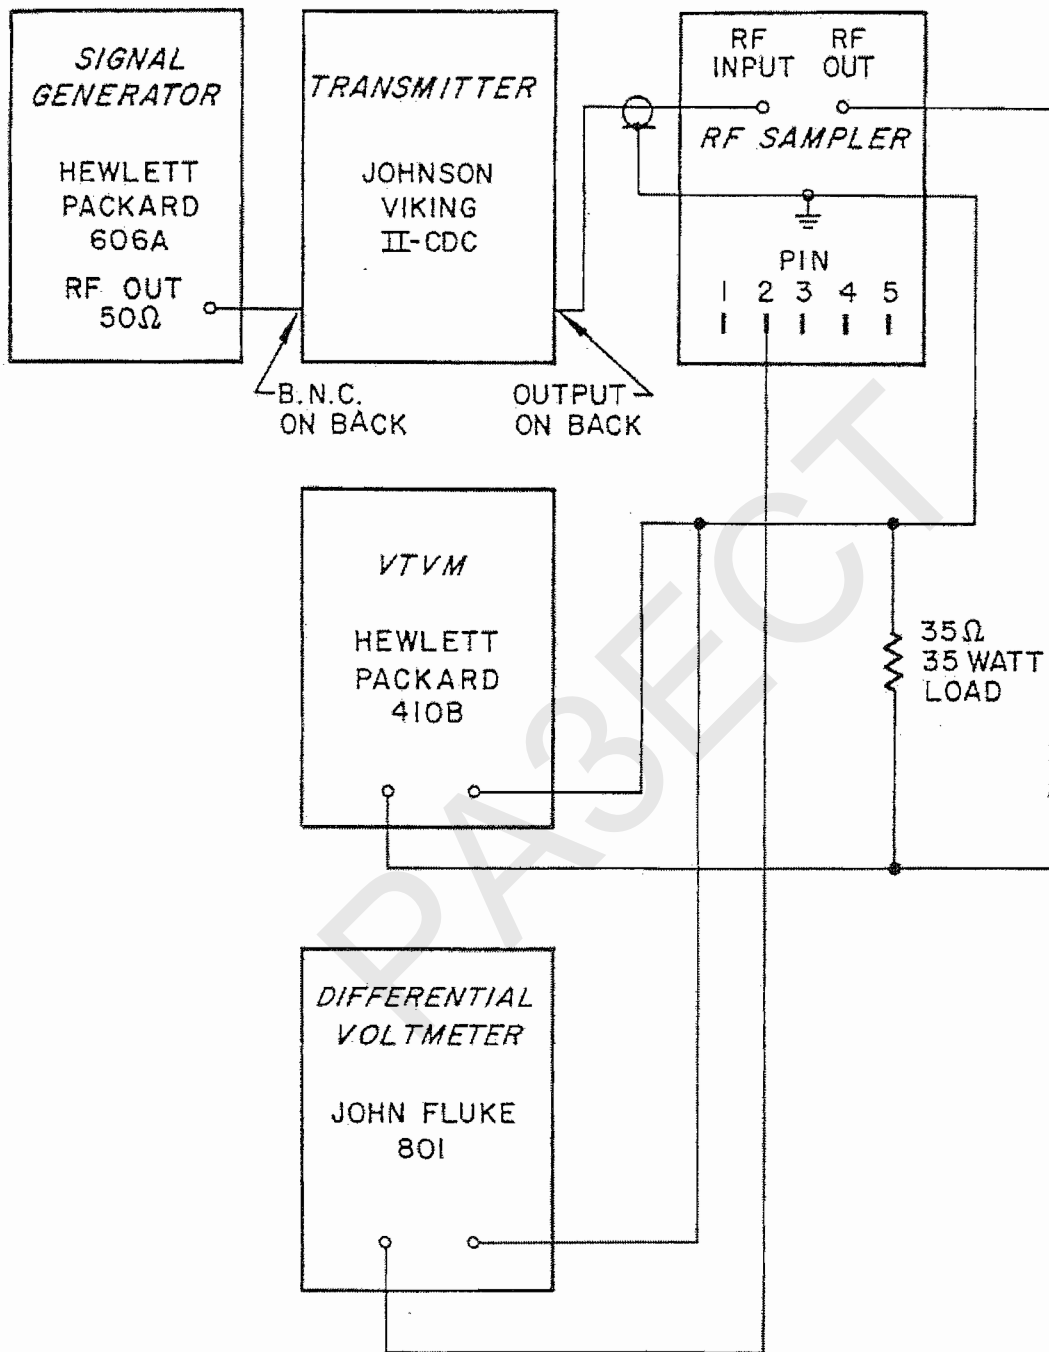

Figure 4-6. RF Sampler Test Equipment Set-Up
- (1) Connect the test equipment to the RF sampler module (figure 4-6).
- (2) Tune transmitter to 24 MHz.
- (3) Increase power out of transmitter until 20 watts is measured across the 35 ohm load.